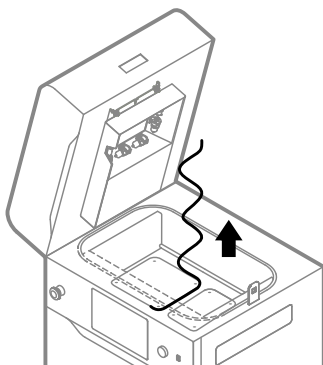

Fig. 12.36 Remove the used fibreglass rope from Feed Bed.
17. Remove the used fibreglass rope around the Feed Bed. You can use the metal spatula to help pull out the sealing (fig. 12.36).